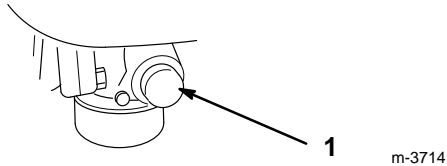

Figure 8
1. Push the primer three (3) times, waiting 2 seconds between each push (Fig. 8). In cold weather (13°C/55°F or below), push the primer five times.